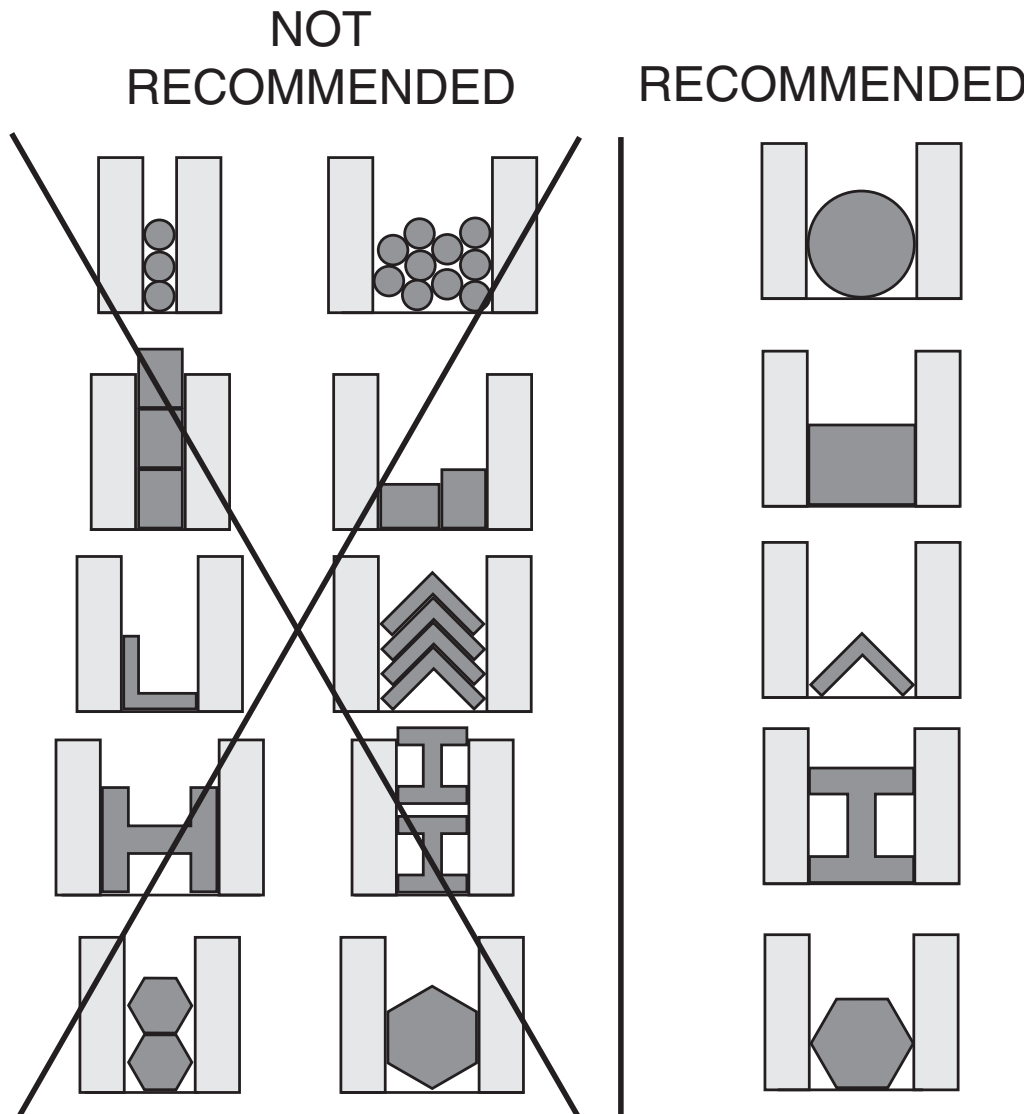

Figure 18. Vise clamping options.
5. Use the chart shown in **Figure 18** as a guide to quickly position the workpiece between the vise jaws correctly and to avoid slipping during a cut. **DO NOT CUT STEEL THAT IS STACKED OR BUNDLED.** One or more workpieces will slip and damage the saw blade.